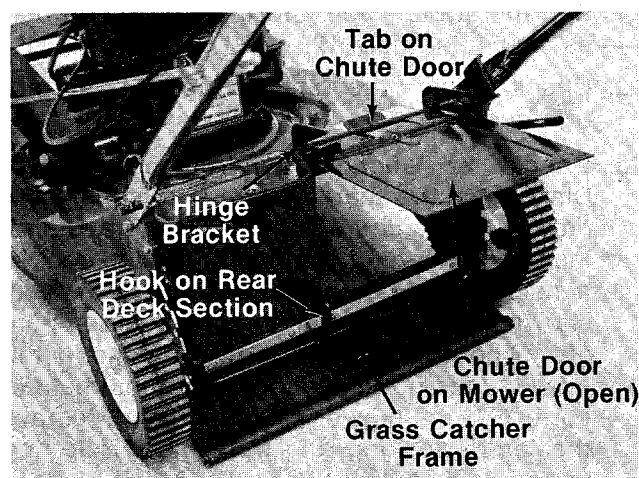

FIGURE 15.
1. Attach the grass catcher frame to rear of the mower by hooking grass catcher into hook on rear deck section. See figure 15.
Figure 15 is shown with the chute door open for photo clarity only.
2. Lift the rear of grass catcher up and slip the grass catcher frame into the slots on the hinge bracket. See figures 15 and 16.